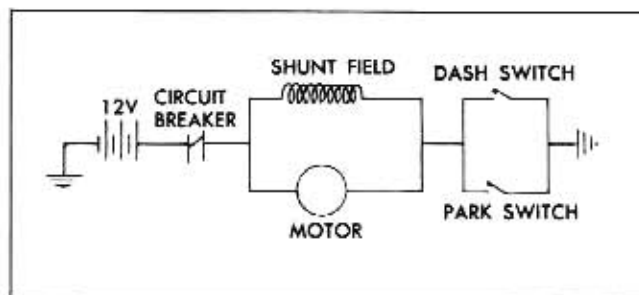

Fig. 11-51 Wiper Schematic
When the wiper is turned "on" at the dash switch, current flows from the battery through the circuit breaker, motor field and armature to the dash switch to ground (Fig. 11-51).
7. Install crank arm in position as shown in Fig. 11-51.